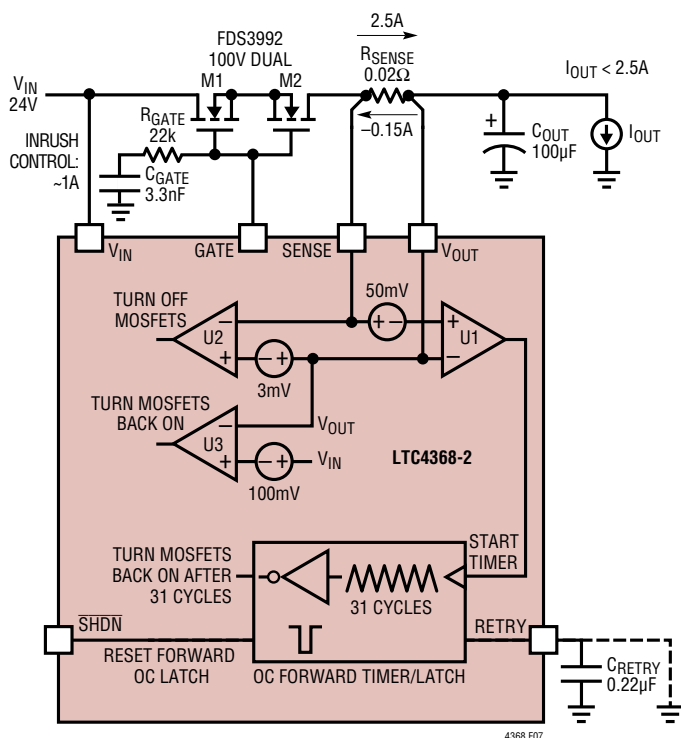
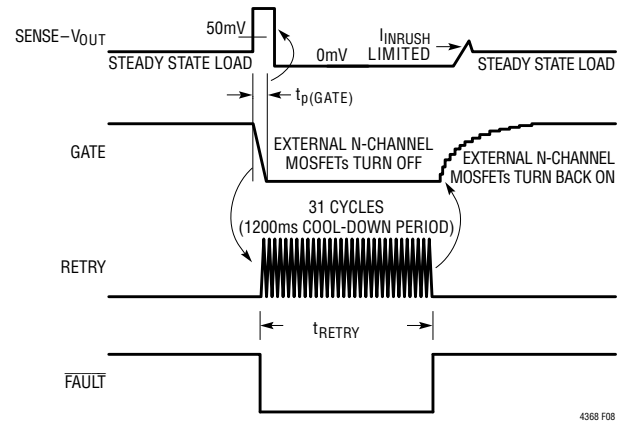

Figure 7. Overcurrent Comparators Monitor 2.5A/-0.15A Current Faults
Figure 8. Forward Overcurrent Fault with $0.22\mu F$ RETRY Capacitor
The 3.3nF C_{GATE} capacitor in the application circuit of Figure 7 limits the inrush current to just over 1A. R_{GATE} prevents C_{GATE} from slowing down the reverse polarity protection circuits. It also stabilizes the fast pull-down circuits and prevents chatter during fault conditions. Set R_{GATE} to 22k for most applications.
Forward overcurrent protection prevents large currents from flowing from V_{IN} to V_{OUT} . This threshold current is determined by the external sense resistor (R_{SENSE}) and an internal comparator (Figure 7, U1) with a 50mV threshold:
For the example of Figure 7, if 2.5A flows to the output across the $20\text{m}\Omega$ sense resistor, the external MOSFETs (M1, M2) are immediately ($8\mu\text{s}$) turned off. This disconnects the load from the input supply.
For the example of Figure 7, the 3.3nF GATE capacitor and the $100\mu\text{F}$ output capacitor limit the inrush current (I_{INRUSH}) to approximately 1A. This means that the output current (I_{OUT}) must be less than 1.5A during turn on in order to avoid a forward overcurrent fault during turn on. Once V_{OUT} has ramped to its final value, the output current is limited to 2.5A.
1. Automatically restart by placing an external capacitor on the RETRY pin. An internal cool-down timer will charge/discharge this capacitor 31 times with a 5.5ms/nF total delay. At the end of this delay, the external MOSFETs are turned back on, thus reconnecting the load to the input supply. The $0.22\mu\text{F}$ capacitor (C_{RETRY}) in the application of Figure 7 yields a 1200ms cool-down timer delay. Note that the adjustable cool-down period provides the user with a means of keeping the external MOSFETs within the rated SOA (safe operating area). See Figure 8 timing diagram.
Reverse overcurrent protection prevents large currents from flowing from V_{OUT} to V_{IN} . There are two options for reverse overcurrent protection thresholds. The LTC4368-1 ($-50mV$) bidirectional circuit breaker allows load current to flow in either direction: from V_{IN} to V_{OUT} or from V_{OUT} to V_{IN} . The LTC4368-2 provides diode-like behavior by making the reverse overcurrent threshold ($-3mV$) significantly smaller than the forward overcurrent threshold ($+50mV$). The reverse overcurrent fault threshold is determined by the external sense resistor (R_{SENSE}) and an internal comparator (Figure 7, U2). For the LTC4368-2 application of Figure 7:
To turn the MOSFETs back on, an internal comparator (Figure 7, U3) detects when V_{OUT} drops $100mV$ below V_{IN} :